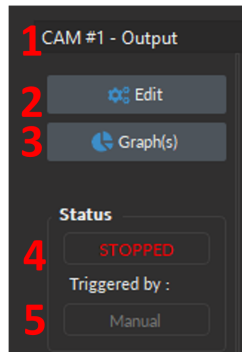
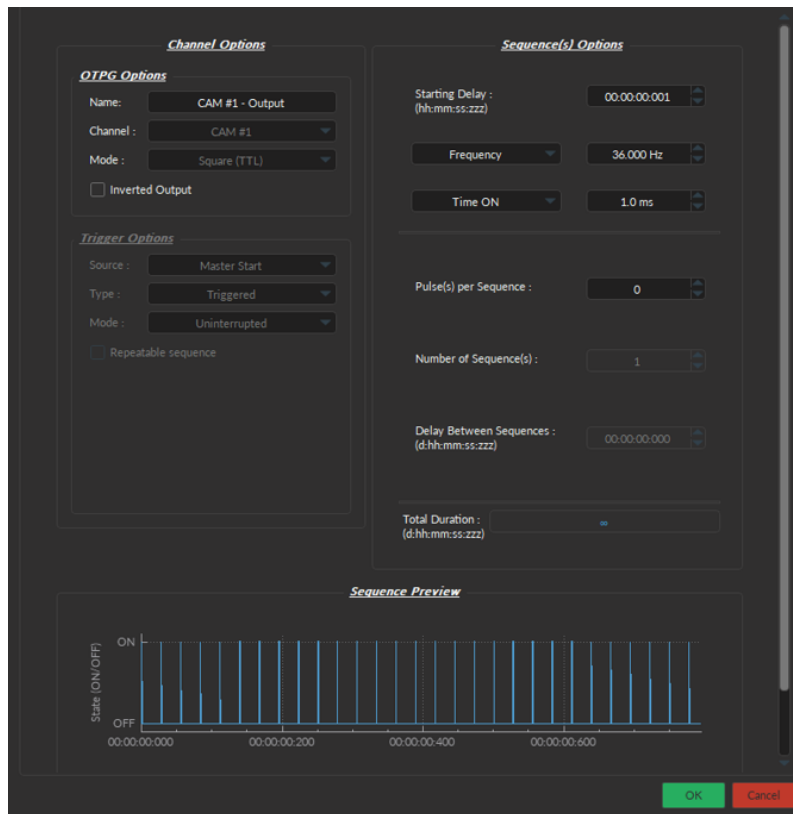

Figure 8.27: Digital I/O View, Control box
Figure 8.28: Edit configuration
The following elements are contained within the **Control Box** of every Digital channel (Fig. 8.27):
1. The **Channel name** (Fig. 8.27, 1) is located on the upper left of the **Control box**, identifying the type of channel and its number, corresponding to that on the *OTPG*.
2. The **Edit** button (Fig. 8.27, 2) opens the **Channel Configuration** window, where parameters can be modified (Fig. 8.28). For details on individual parameters, see Section 8.2.3.
3. The **Graph(s)** (Fig. 8.27, 3) button opens the **Graph Options** window (Fig. 9.36) corresponding to the channel whose graph will be modified. This window allows users to configure the visualization and naming parameters of
4. The **Status** bar (Fig. 8.27, 4) displays acquisition status. **STOPPED** is displayed when the acquisition is inactive, **STARTED** when acquisition is active, and **WAITING...** when the **Master Trigger** is set to *Triggered* (see Section 8.1.2.1, no. 3).
5. The **Triggered by:** (Fig. 8.27, 5) text-box displays the source of the trigger for that channel, which can either be Manual (i.e. selecting the **Record/Live** button) or a specific channel that provides external trigger signal.